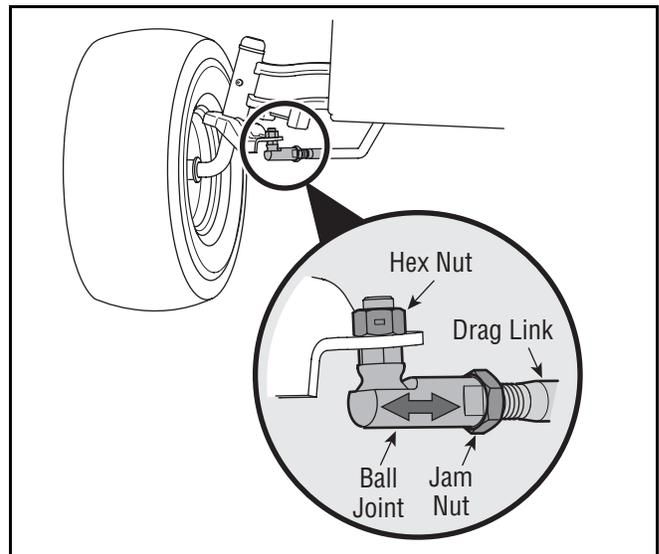

Figure 14
1. Loosen the jam nut found on the drag link at the rear of the ball joint. See Figure 14.
2. Remove the hex nut on the top of ball joint. See Figure 14.